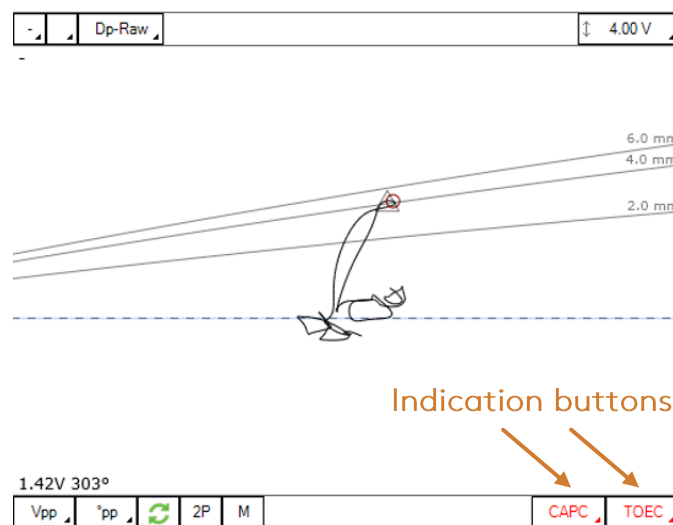
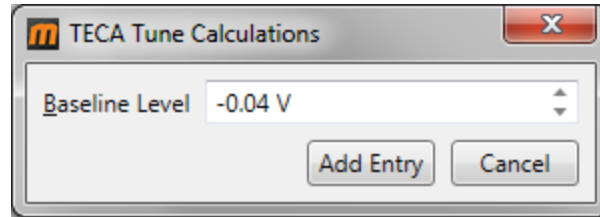

Figure 11: Indication buttons in the Lissajous window
Figure 12: TECA Tune Calculations window
I) Click on one of the indication buttons in the lower right corner of the Lissajous ("CAPC" written in red in Figure 11). This will open the TECA Tune Calculations window (Figure 12)